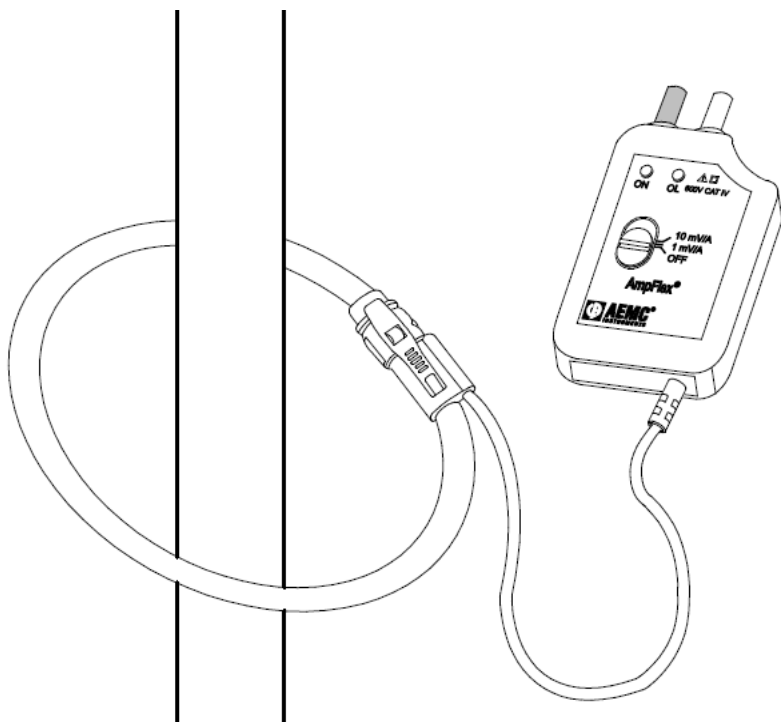

Figure 2
- For best accuracy, center the AmpFlex® around the conductor to be measured (see figure 2).